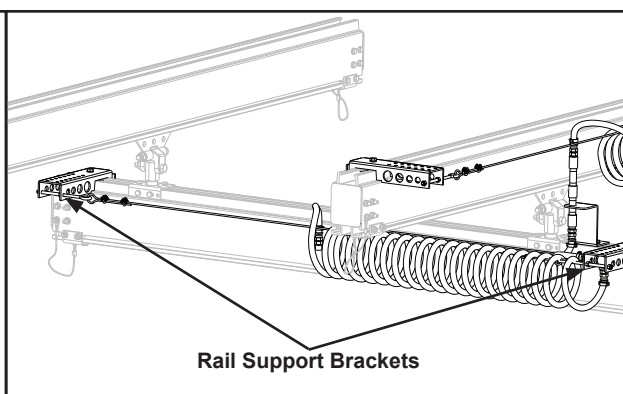

Figure 3-122
- Step 4. At opposite end of rail, attach rail support bracket by loosening M12 HHCS and sliding rail support bracket into bridge top channel. Tighten M12 HHCS to secure rail support bracket to rail. **Tighten until bolts are snug + $\frac{1}{4}$ turn.** Do not over tighten. Over tightening could cause bracket to bend. See Figure 3-122.